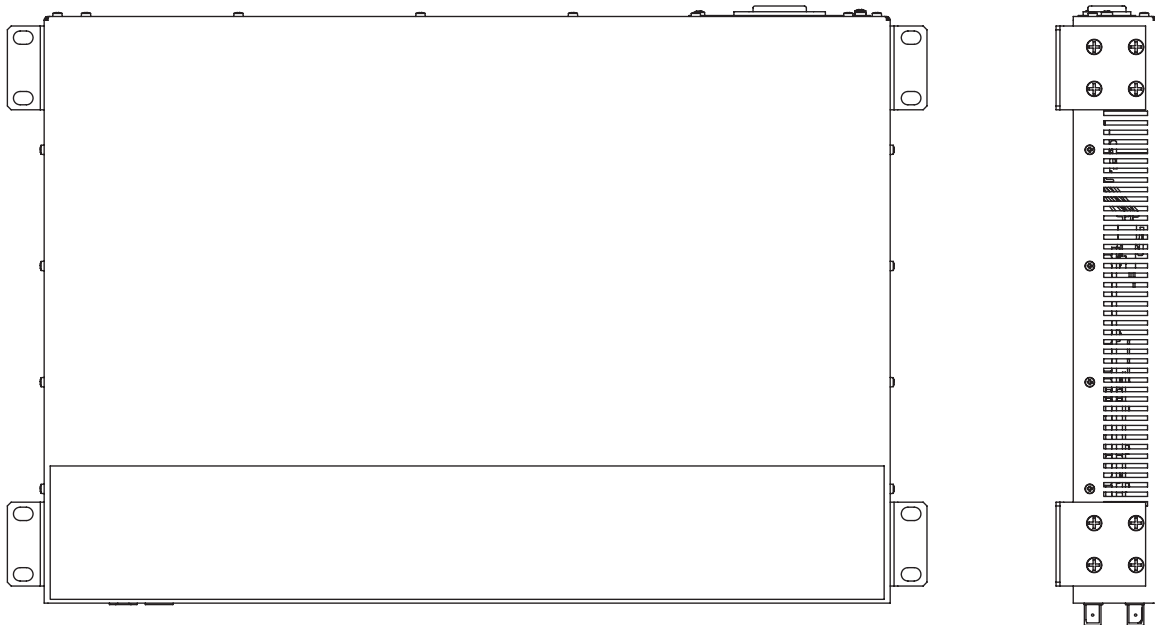

Figure 10: Vertical mounting on the wall
- Use the pre-mounted brackets included in the delivery as shown in the following figure (see fig. 10).
- Attach two additional brackets to the device (see on page 35 „Accessories“, not included in the delivery) as shown in the following figure (see fig. 10).